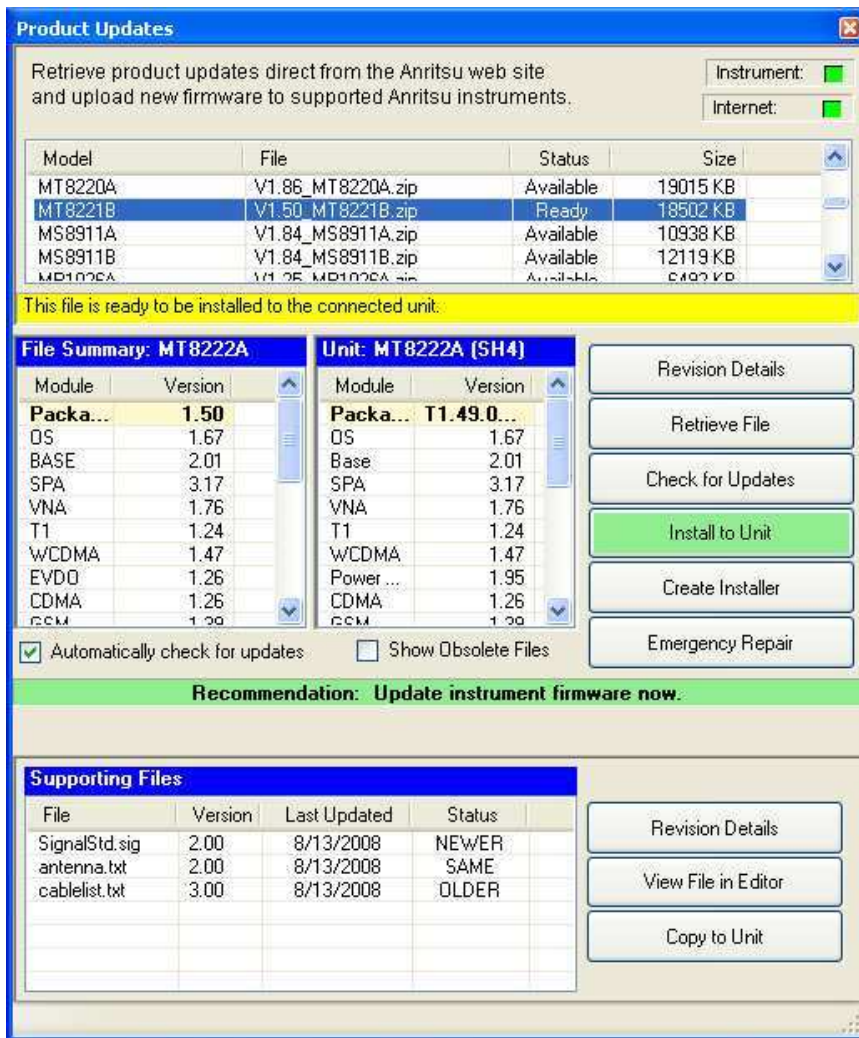
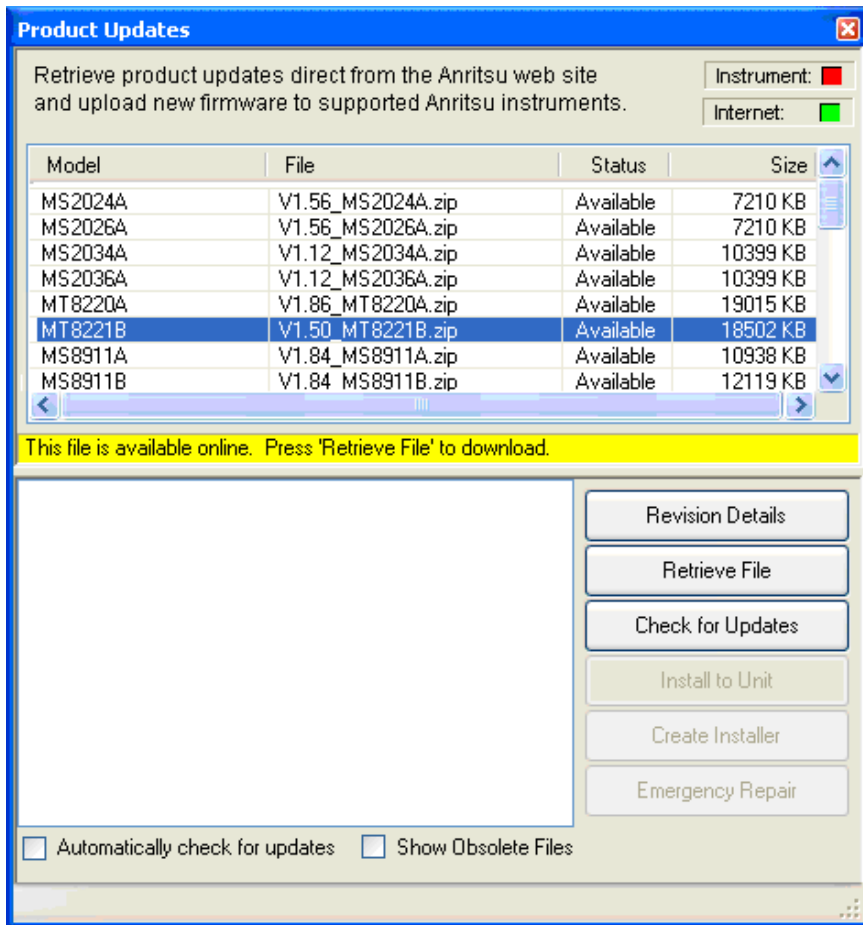

Figure 8-3. Product Updates Window: Status Ready
Figure 8-4. Product Updates Window: Status Available
5. Notice the differences in the two Product Updates windows in Figure 8-3 and Figure 8-4.
In Figure 8-3, the status of the highlighted file is Ready, and the Install to Unit button is active. You can immediately click Install to Unit to update your Spectrum Master with the new firmware.
In Figure 8-4, the status of the highlighted file is Available, and the Install to Unit button is gray and inactive. This means that the updated file is on the Anritsu Product Support Web site and needs to be downloaded to your PC. After the file has been downloaded and placed on your PC, its status changes to Ready, and the Install to Unit button becomes active.